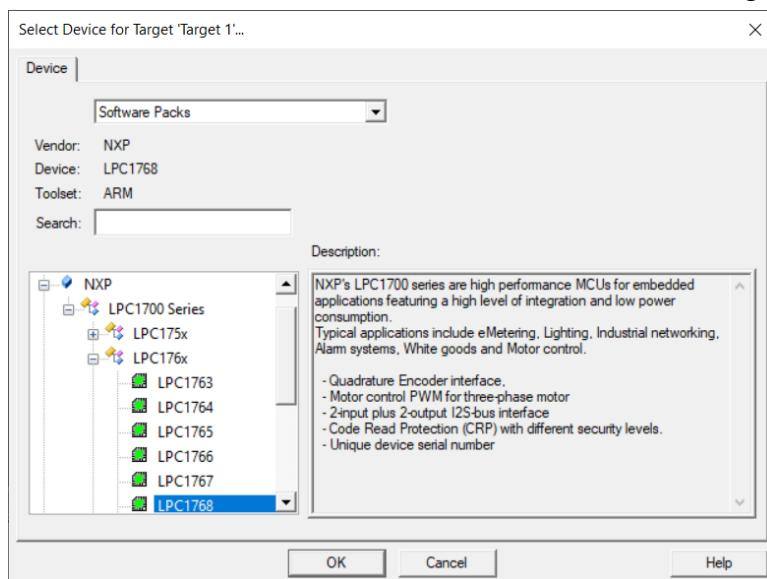

Figure 8.3: Keil IDE: Choose MCU
- Select NXP → LPC1700 Series → LPC176x → LPC1768 (See Figure 8.3).